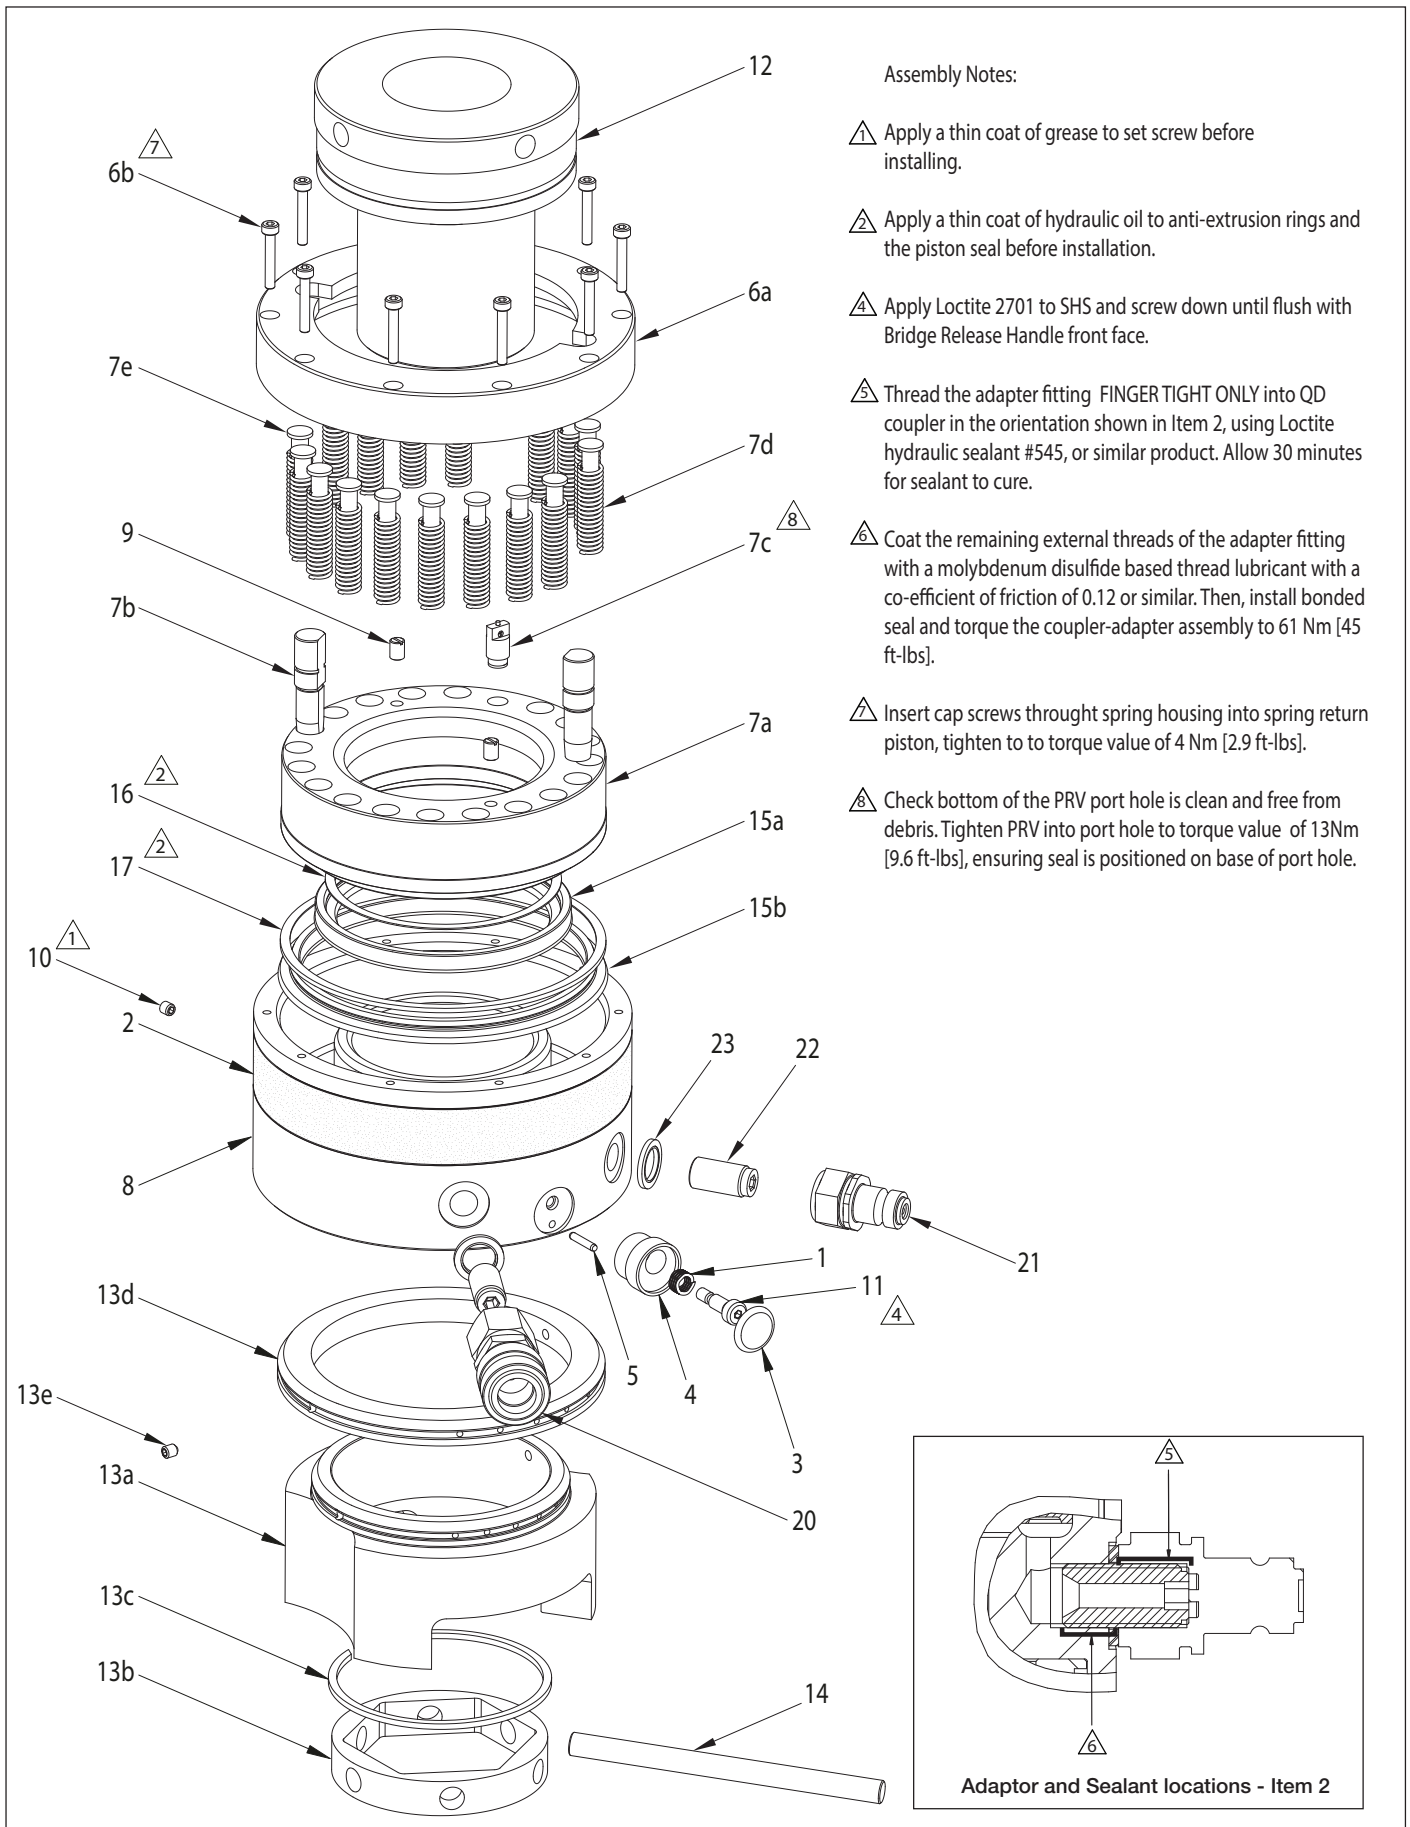

Figure 4, Exploded View, HydraMax® Series Hydraulic Tensioner (Models HM08, HM09, HM10)
**Repair Parts List For Figure 4 – HydraMax® Series Hydraulic Tensioner, Models